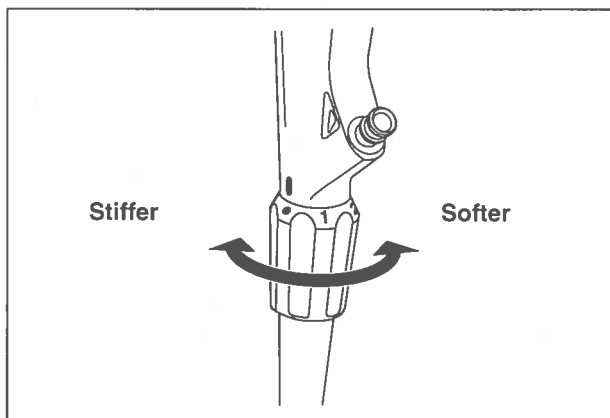

Figure 4.3
1. Before inserting or withdrawing the endoscope, set the insertion tube to an appropriate level of flexibility by turning the flexibility adjustment ring as required (see Figure 4.3).